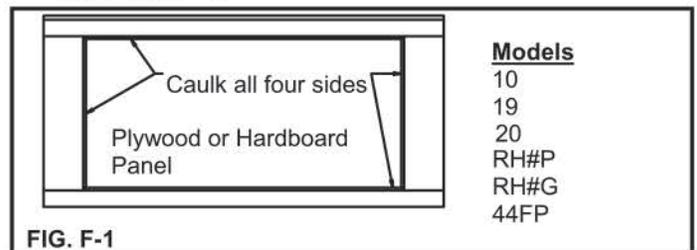
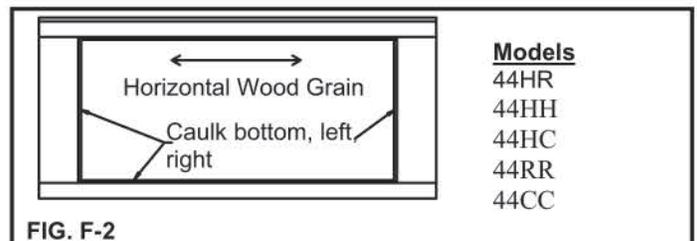
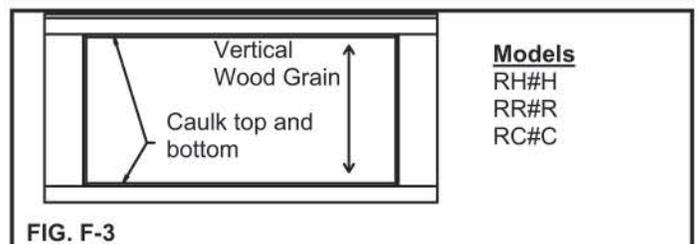

FIG. F-1
FIG. F-2
FIG. F-3
**NOTE: For optimum long lasting performance** the spaces between the rails or stiles and the door panel should be caulked with a paintable caulk prior to painting the door. For plywood and hardboard panel doors, all (4) sides of each panel should be caulked (Fig. F-1). For hemlock, cedar, or redwood panel doors with wood grain running horizontally, the bottom, left, and right sides of the panels should be caulked (Fig. F-2). For hemlock, cedar, or redwood panel doors with wood grain running vertically, the top and bottom of the panels should be caulked (Fig. F-3).
**NOTE: For optimum long lasting performance** on a stained door, the spaces between the rails or stiles and the door panel should be caulked with a clear silicone caulk after staining the door. For plywood and hardboard panel doors, all (4) sides of each panel should be caulked (Fig. F-1). For hemlock, cedar, or redwood panel doors with wood grain running horizontally, the bottom, left, and right sides of the panels should be caulked (Fig. F-2). For hemlock, cedar, or redwood panel doors with wood grain running vertically, the top and bottom of the panels should be caulked (Fig. F-3).